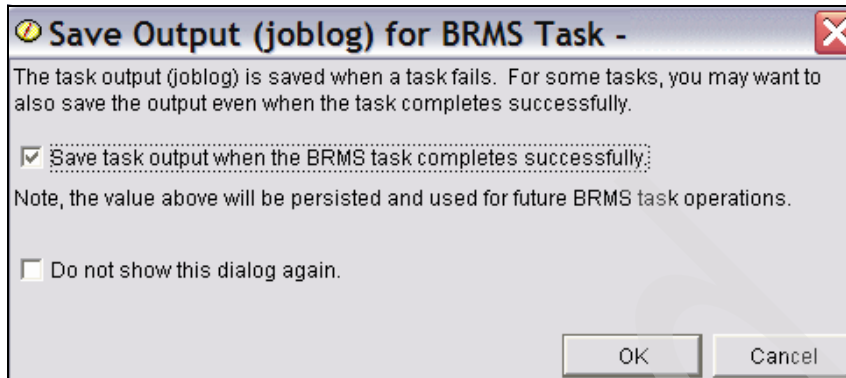

Figure 5-68 BRMS run Domino backup, save joblog
4. In the window shown in Figure 5-68 on page 253, select **Save task output...**, and then click **OK**.